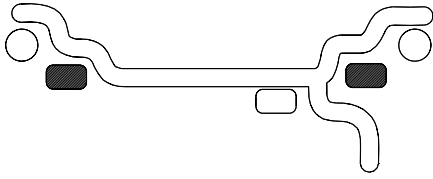

Figure 17 **ALU 1**
C. ALUMINUM MODES. Balancing using a combination of hammer-on and adhesive weights as shown in Figures 17 thru 21.